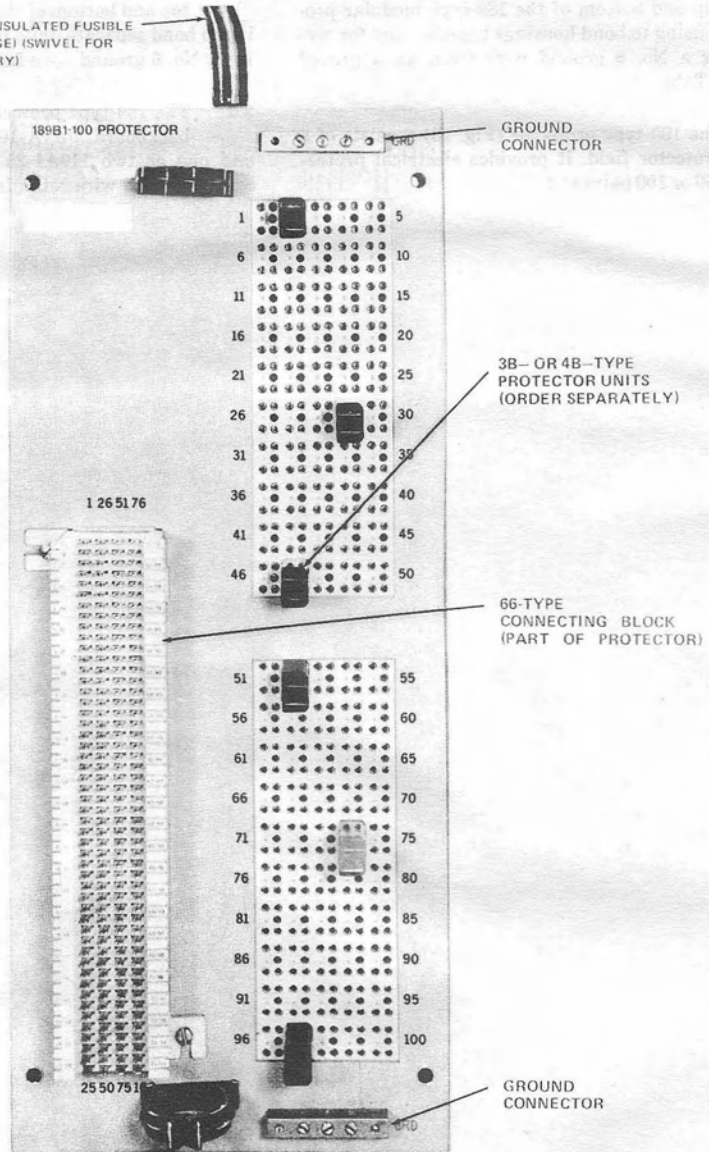

Fig. 14—189-Type Modular Protector
3.22 The 189-type modular protector (Fig. 14) is a combination protector and terminating field intended for use with the 66-type quick-connect hardware. It provides electrical protection at building entrance terminals for 25, 50, and 100 exposed feeder